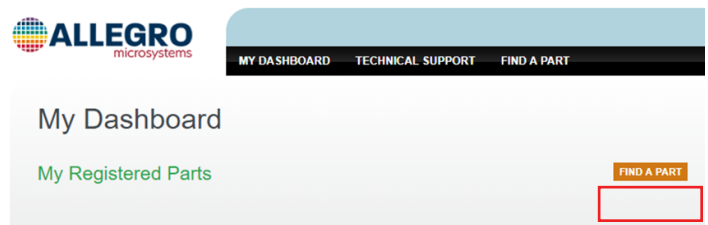

Figure 3: “Find a Part” button allowing the user to register specific devices
3. After registering and logging in to the software portal, the user will be greeted with the dashboard page. Choose the “Find a Part” button highlighted in Figure 3.